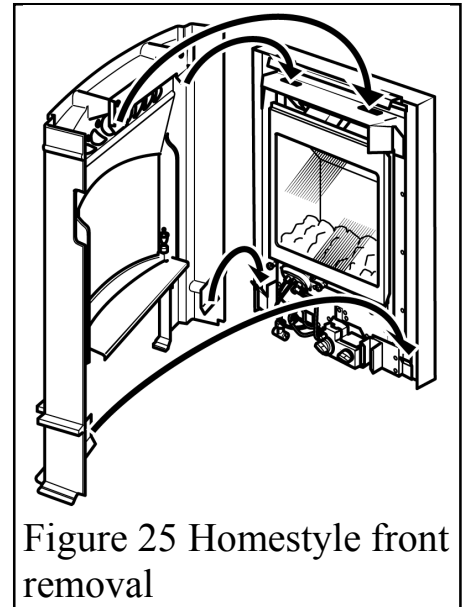

Figure 25 Homestyle front removal
- Raise the front casting unit so that the bottom location brackets and the top location plate are released from the locations in the main fire case. See figure 25.